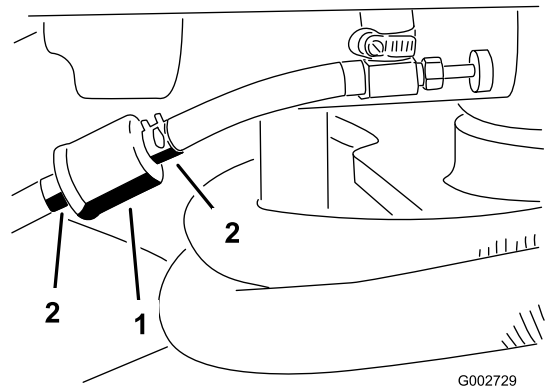

Figure 29
1. Close the fuel-shutoff valve, loosen the hose clamp on the carburetor side of the filter, and remove the fuel line from the filter (Figure 29).